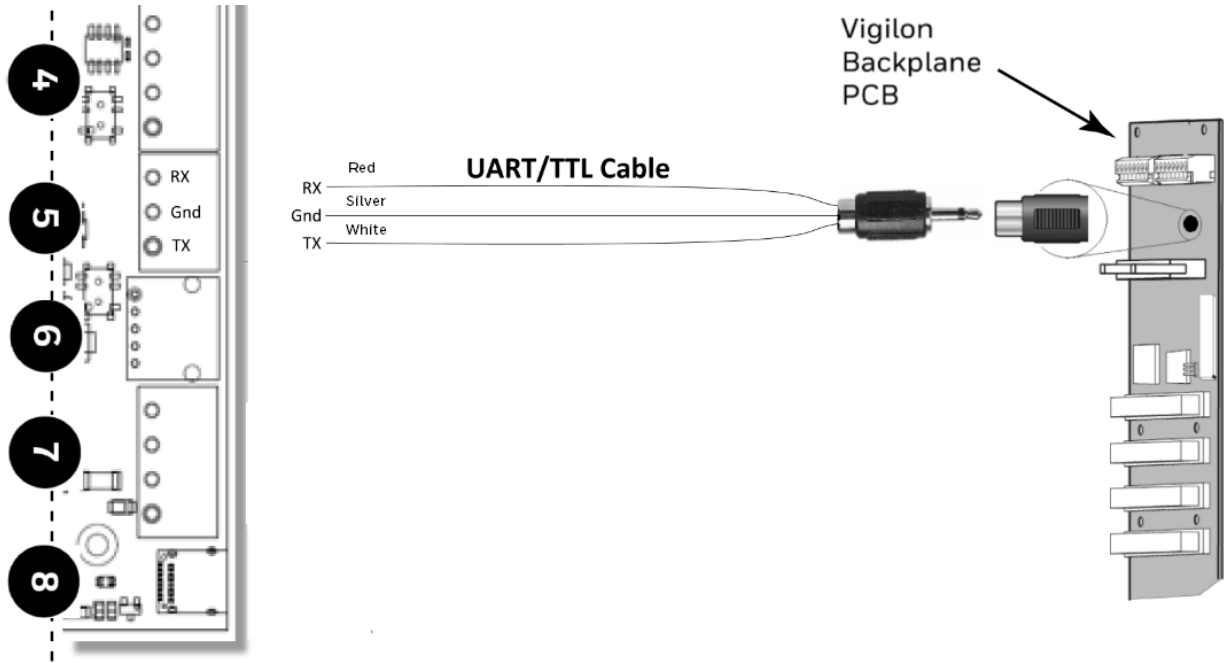

Figure C-24: Vigilon Panels: UART/TTL Connection
- Within the panel, find the backplane PCB board (see Figure C-24: Vigilon Panels: UART/TTL Connection ).